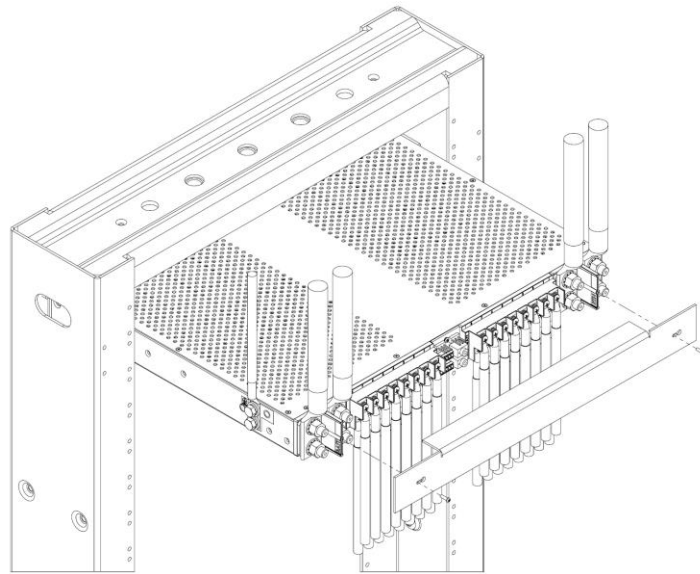
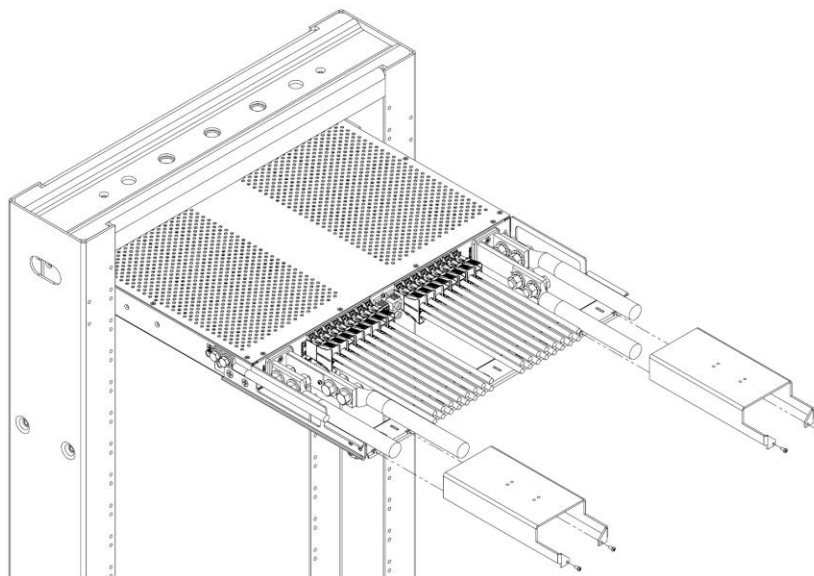
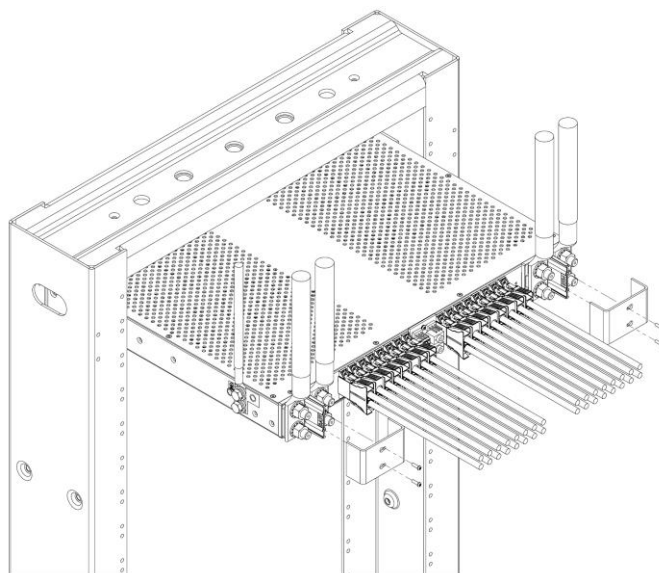

Fig. 2-21: Rear Cover (Standard Versions)
Fig. 2-22: Rear Cover (-C Versions)
Fig. 2-23: Rear Cover (-SC Versions)
60. Install rear plastic cover using provided hardware, as shown in Fig. 2-21, Fig. 2-22, and Fig. 2-23.